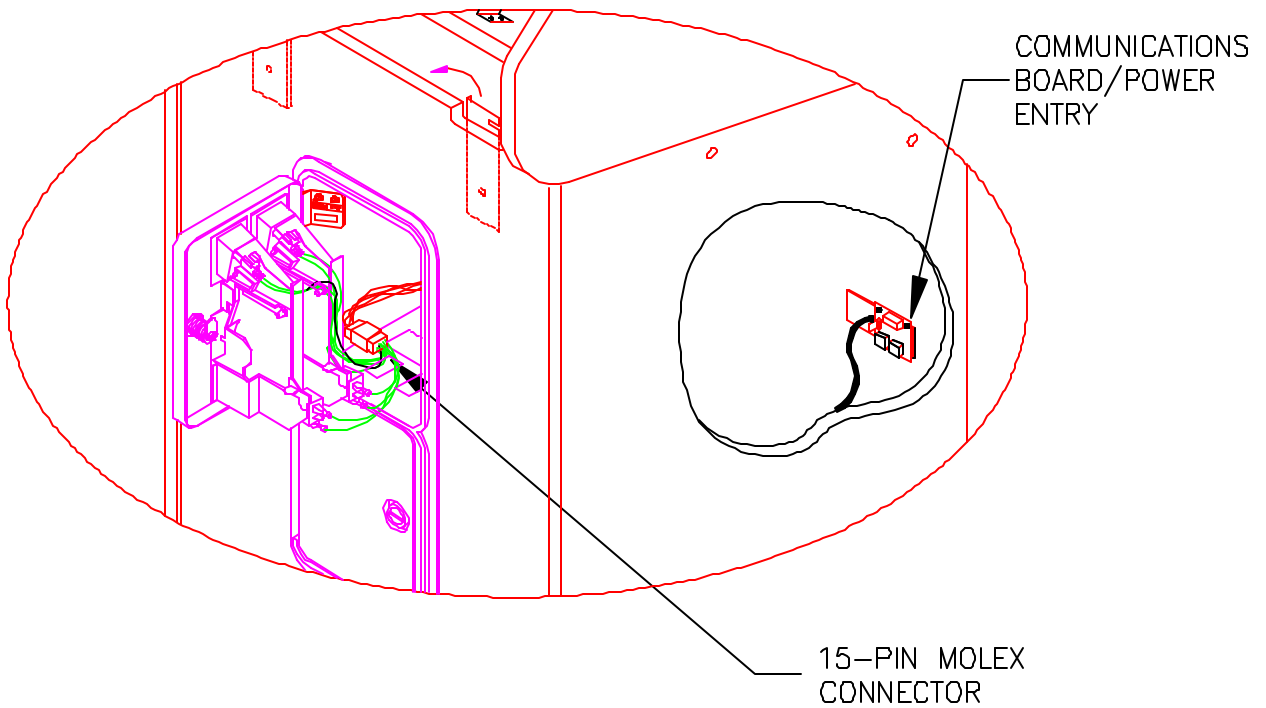

FIGURE 4 - COMMUNICATIONS BOARD LOCATION - CABARET/UPRIGHT
3. *REAR-ACCESS UPRIGHTS ONLY:* Disconnect the right angle connector from the power supply and disconnect the monitor power connector. Slide the CPU shelf out of the cabinet and rest it on end. See Figure 4.
4. Locate the communications board (shown in Figure 4).
6. Remove the three- (3) nuts securing the communications board to the metalwork and remove it.